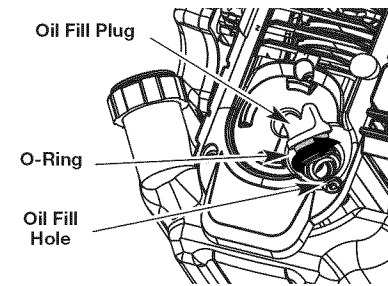

Fig. 7
2. Remove the oil fill plug from the crankcase (Fig. 7).